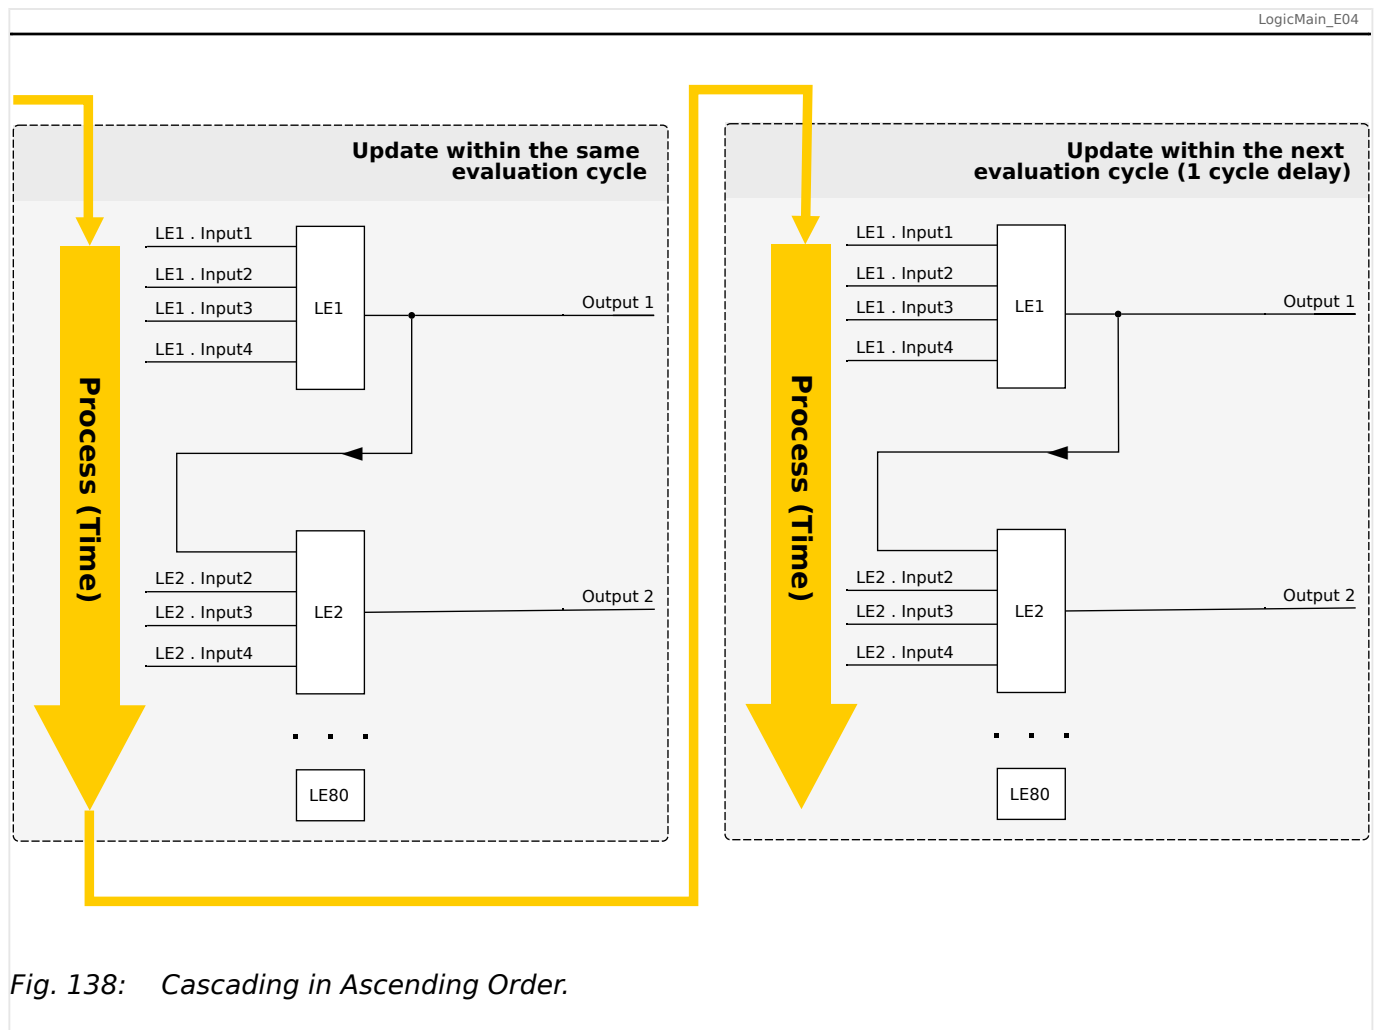
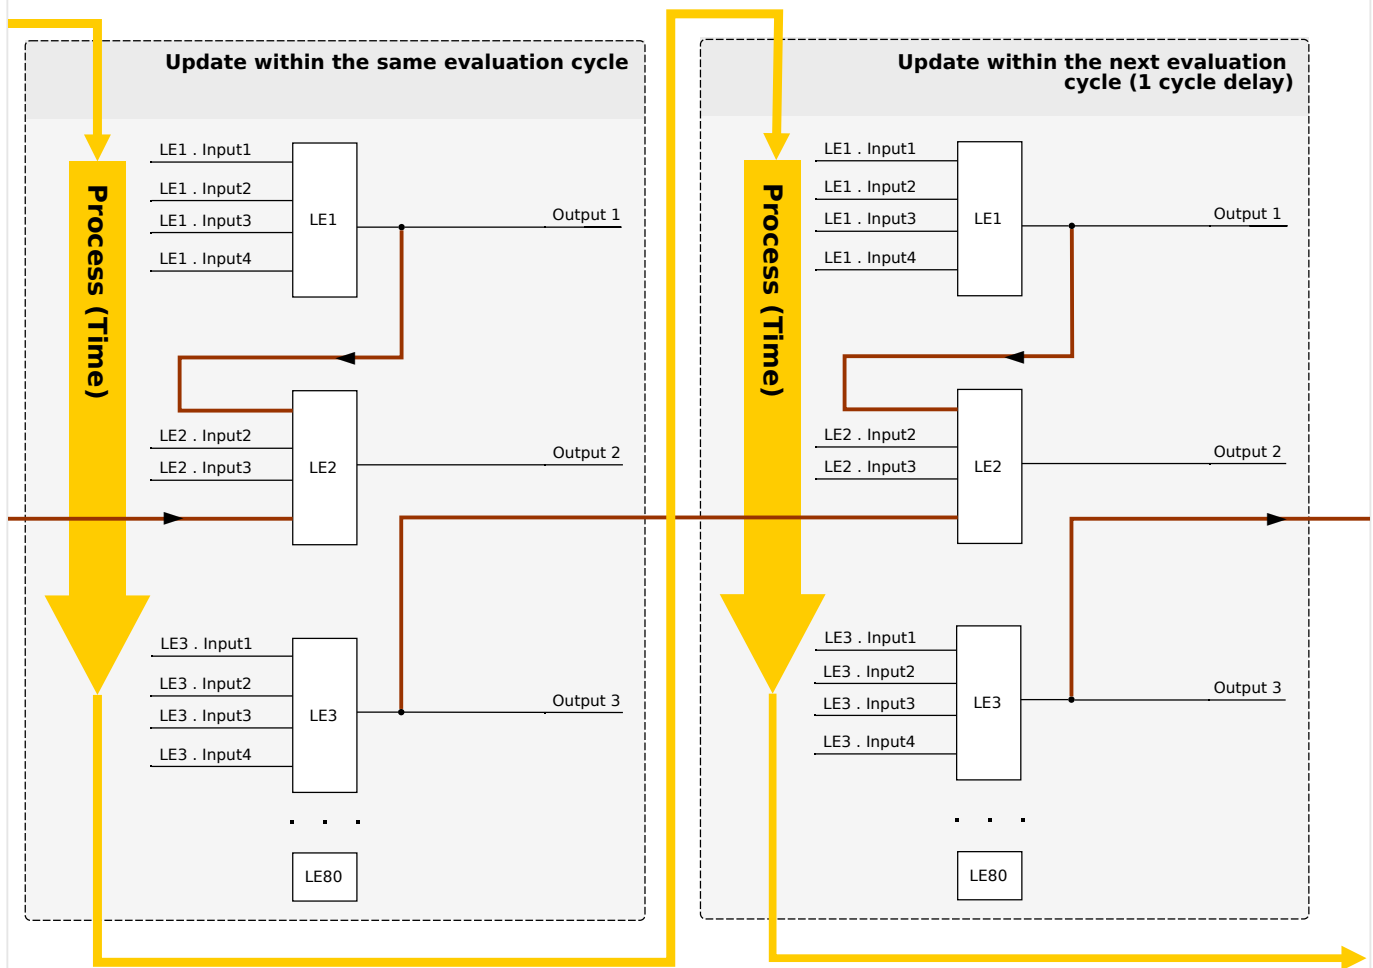

Fig. 138: Cascading in Ascending Order.
Fig. 139: Cascading in Descending Order.
- **Ascending** sequence means that some output is fed into the input of a logic equation with **higher** number. For instance, diagram  Fig. 138 below shows an example where the result of Logic Equation LE1 is used as an input of Logic Equation LE2.
- **Descending** sequence means that some output is fed into the input of a logic equation with **lower** number. For instance, diagram  Fig. 139 shows an example where the result of Logic Equation LE3 is used as an input of Logic Equation LE2.
Both ascending and descending sequences may be used and combined one with the other, with no immediate difference. However, due to the evaluation of all equations in ascending order the actual run-time values that are fed in at the input of an equation will have a different “age”, as is shown in  Fig. 138 and  Fig. 139 below.
In the example shown in  Fig. 139 above, “Logic Equation 2” uses the output states of two other equations, “Logic Equation 1” and “Logic Equation 3”. The result of “Logic Equation 1” is used in ascending order and has therefore been evaluated within the same process cycle. The result of “Logic Equation 3” is used in descending order and has therefore been evaluated in the previous process cycle.